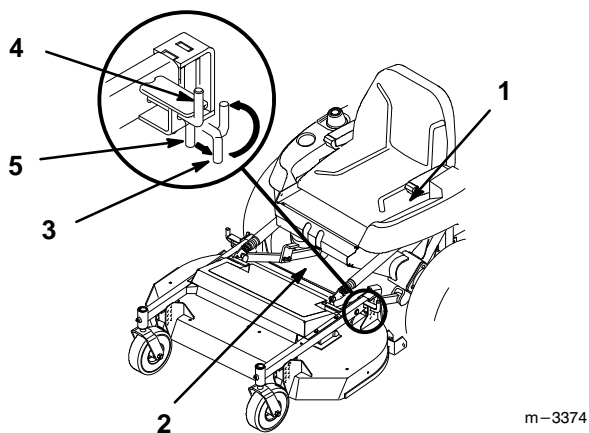

Figure 14
2. Pull out on latch pin to release and rotate into notch to hold in the open position (Fig. 14). Repeat on the other side. Lower rear of mower onto rollers.
1. Pull out latch pins and rotate into notch to hold in the open position (Fig. 14).
3. Rotate latch pins into released position and lift on side of carrier frame until latch pin engages (Fig. 14). Repeat on the other side.